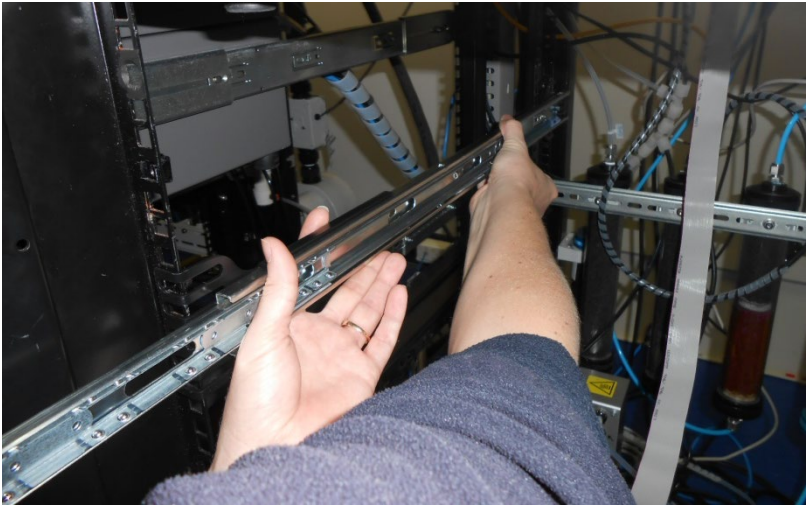

Figure 89 – Test Fit the Rack Slide Assembly into Your Rack
7. Install the two assembled outer slide rails onto the left and right side of the rack securely with M6 bolts; washer and locknuts/cage nuts (refer to Figure 89).